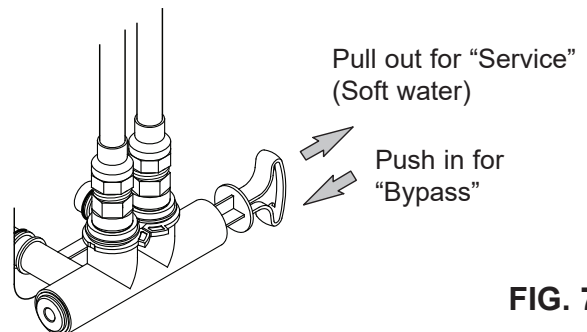

FIG. 7
Always install either a single bypass valve (provided), as shown in Figure 7, or, if desired, parts for a 3 valve bypass system (not included) can be purchased and assembled, as shown in Figure 8. Bypass valves allow you to turn off the water to the softener for maintenance if needed, but still have water in house pipes.
2. Place the bypass valve (single or 3 valve) into the “bypass” position. See Figures 7 & 8 on Page 7.